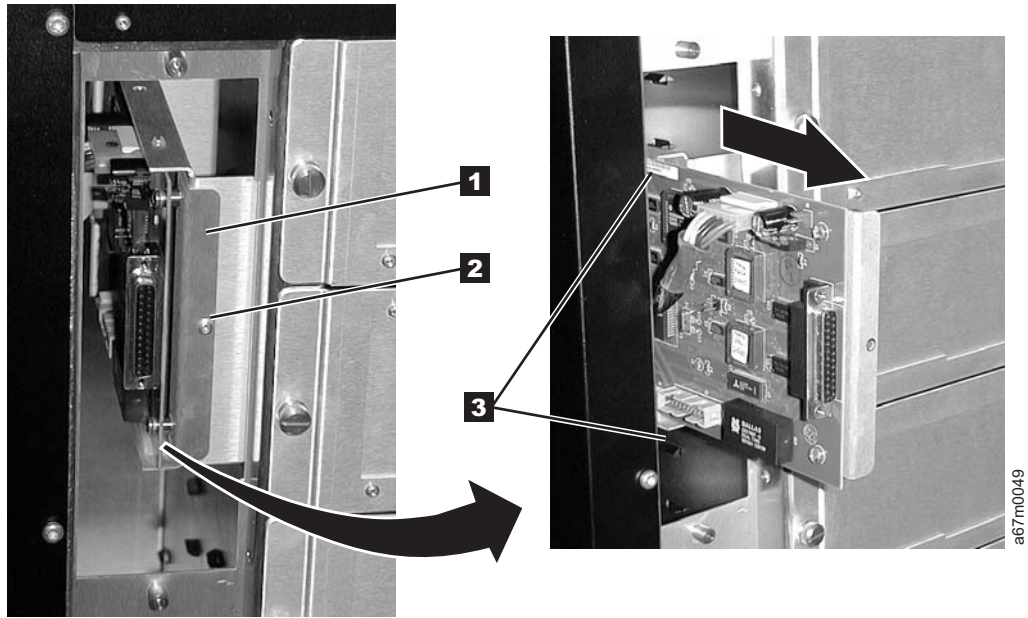

Figure 8-27. Main Board Removal and Replacement
See Figure 8-27 on page 8-35 for locations of components in the following procedure.
4. (See Figure 8-27 on page 8-35). Remove the T8 Torx screw **2** holding the Main Controller Board to the Library chassis. Now slide the Main Controller Board partially out of the guiding tracks **3**.